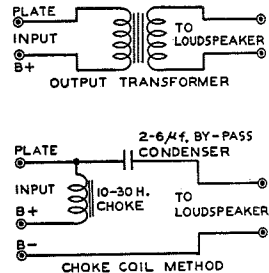

Fig. 20
Output coupling devices are of two types, (1) choke condenser and (2) transformer. The choke-condenser type consists of an iron-core choke coil with an inductance of not less than 12 henrys which is placed in series with the plate and B-supply. The choke offers a very low resistance to the d-c plate current but opposes the flow of the fluctuating signal voltage. A by-pass condenser of 2 to 4  $\mu$ f. supplies a path to the speaker winding for the signal voltage. The transformer type is constructed with two separate windings, a primary and a secondary wound on an iron core. This construction permits of designing each winding to meet the requirements of its position in the circuit. Typical arrangements of each type of coupling device are shown in Fig. 20.